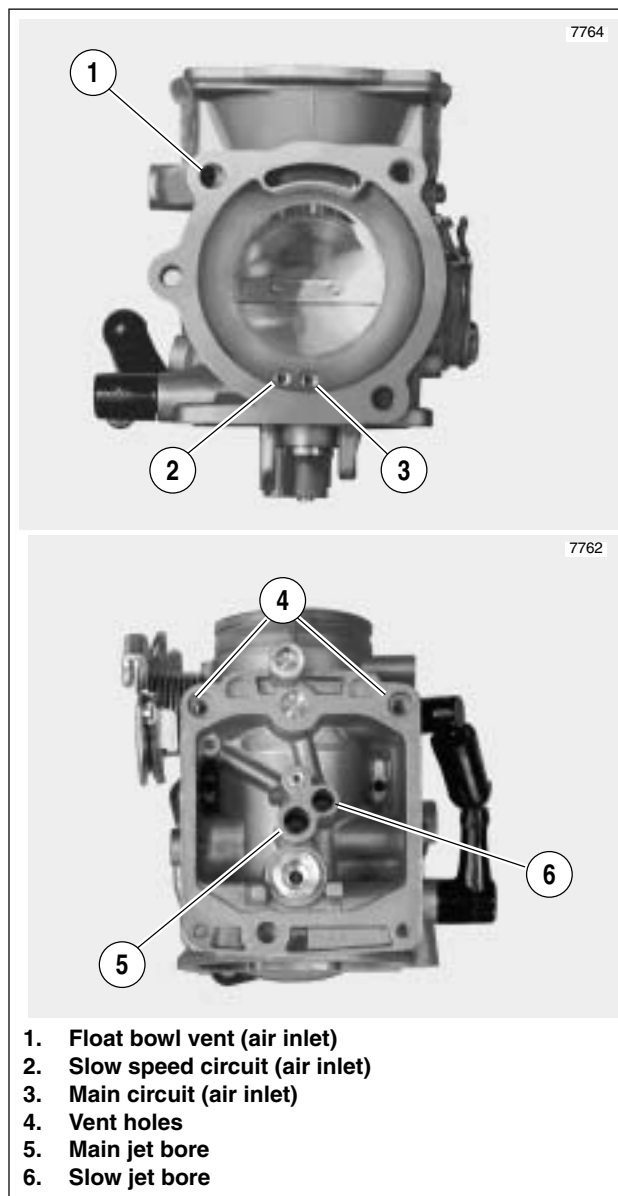

Figure 4-15. Air/Fuel Passages in Carburetor
1. See Figure 4-15. Spray carburetor cleaner into air inlet hole of slow speed circuit. While spraying, verify that solution exits slow jet bore at bottom of carburetor housing. Placing finger over slow jet bore, verify that solution exits four pin holes just inboard of the throttle plate, as well as the single pin hole outboard of the throttle plate.
1. See Figure 4-15. Plugging main jet hole in carburetor throat, spray carburetor cleaner into air inlet hole of main circuit. While spraying, verify that solution exits main jet bore at bottom of carburetor housing.
1. See Figure 4-15. Spray carburetor cleaner into air inlet hole of float bowl vent. While spraying, verify that solution exits two holes in float bowl chamber at bottom of carburetor housing.